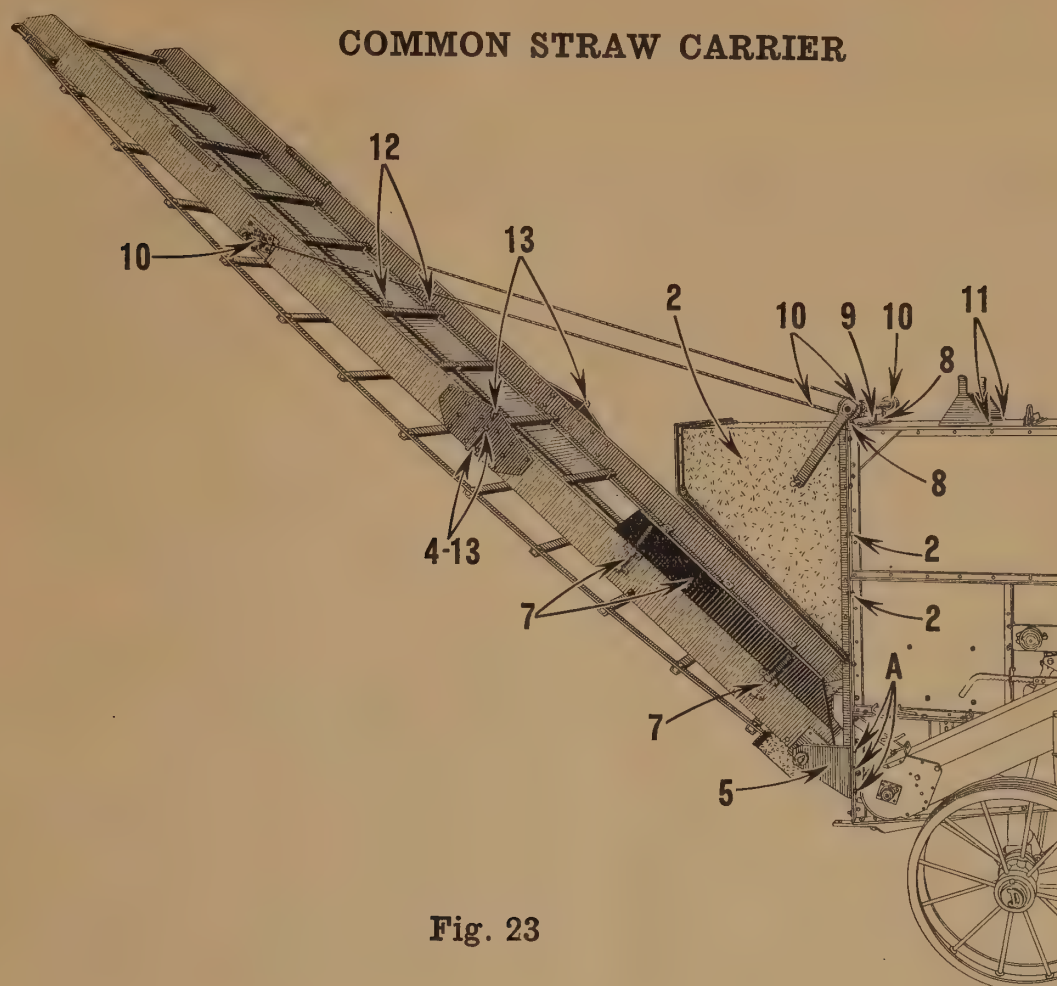

Fig. 23
2. (Fig. 23.) Cut and punch out the four rivets securing main frame reinforcing plate to bottom end of rear upright angles and ream holes to $15/32''$ both sides. Bolt hood to separator rear deck and upright angles.
4. (Fig. 23.) Bolt hinge brackets together at middle of carrier—both sides.
5. (Figs. 23 and 24.) Place carrier on blocking, approximately 26 inches high. With slots in carrier hanger brackets **over** lugs on drive shaft bearing boxes, bolt hanger brackets to separator upright angles with bolts at "A" both sides.
7. (Fig. 23.) Attach carrier sideboard extensions.
8. (Fig. 23.) Bolt brackets (3) on carrier raising and lowering shaft to **front** of separator deck cross angle, rear—Crank goes to R. H. side.
9. (Fig. 23.) Bolt bracket with ratchet stop to **top** of separator deck R. H. side and at second bolt from the **rear**, **being sure** stop lines up with ratchet on raising and lowering shaft.
10. (Fig. 23.) Attach raising and lowering cable:—Insert one end of cable through hole in spool at one end of raising and lowering shaft and tie a knot in cable—pass opposite end of cable around pulleys in carrier sides and secure end of cable in opposite spool, with a knot.
11. (Fig. 23.) Remove four rivets (2 on each side) just to **rear** of the fifth cross angle on separator deck and bolt carrier rest for transporting at these holes.
12. (Fig. 23.) Adjust carrier conveyor just tight enough so that it will convey the straw.
13. (Fig. 23.) **To Transport:** Place a prop under carrier at **upper** end of **lower section**. Release tension on cable just enough to insert cable into hooks in carrier hinge brackets, as indicated by the broken lines; then remove bolts in hinge brackets and fold upper end of Carrier onto separator deck. Remove slack in cable.